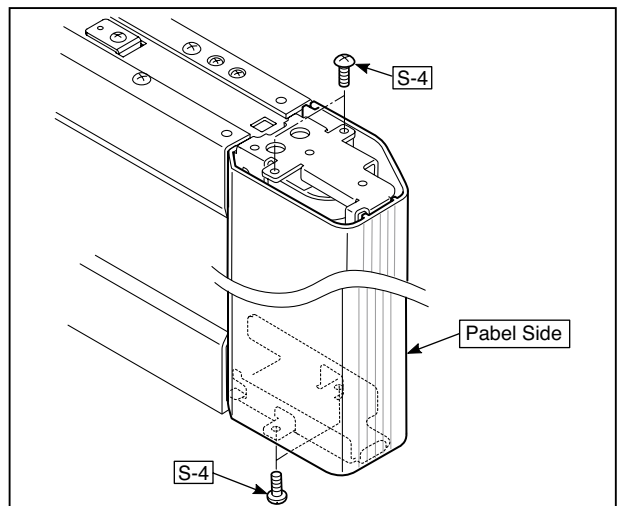

Fig.19
### 14) Remove the Panel Side. (See Fig. 19)
- 1 Remove the "S-4" screws shown in the figure 19 and then remove the Panel Side.